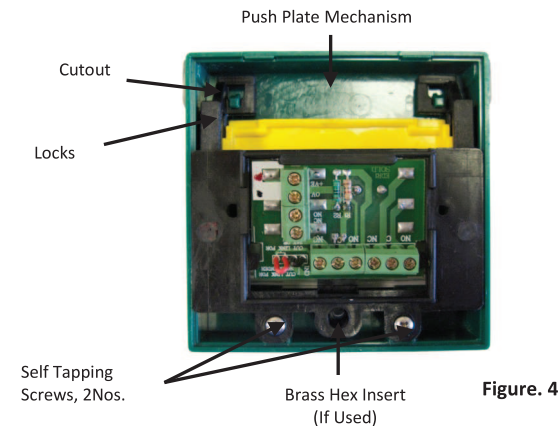

Figure. 4
3. If the Flush Surface Box has 4 Fixings go straight to Instruction 4. If the Flush Surface Box has 2 fixings (Typically Plaster Fix) the Brass Hex Insert needs to be fitted to the Push Plate Mechanism, as shown in figure 4.